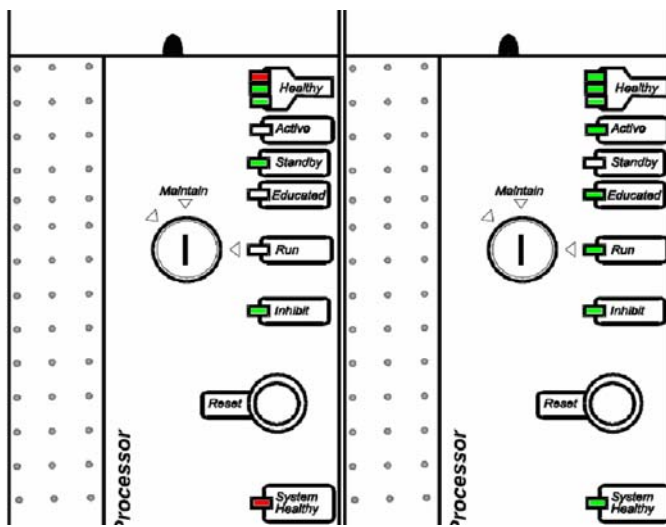

Figure 15-11: Active Replacement Processor
- 5) A hand-over can now be performed. This is initiated by using the ejector key (but do *not* rotating the levers open) on the primary processor. The replacement standby processor should now become active, indicated by its *Active* LED being steady green. The faulty primary processor should now become the standby, indicated by its *Standby* LED flashing green and its *Educated* LED being off, as shown in Figure 15-11. (*Note: If the primary processor has an actual fault, the swap will be automatic and the levers will not have to be operated to initiate the change-over.*)